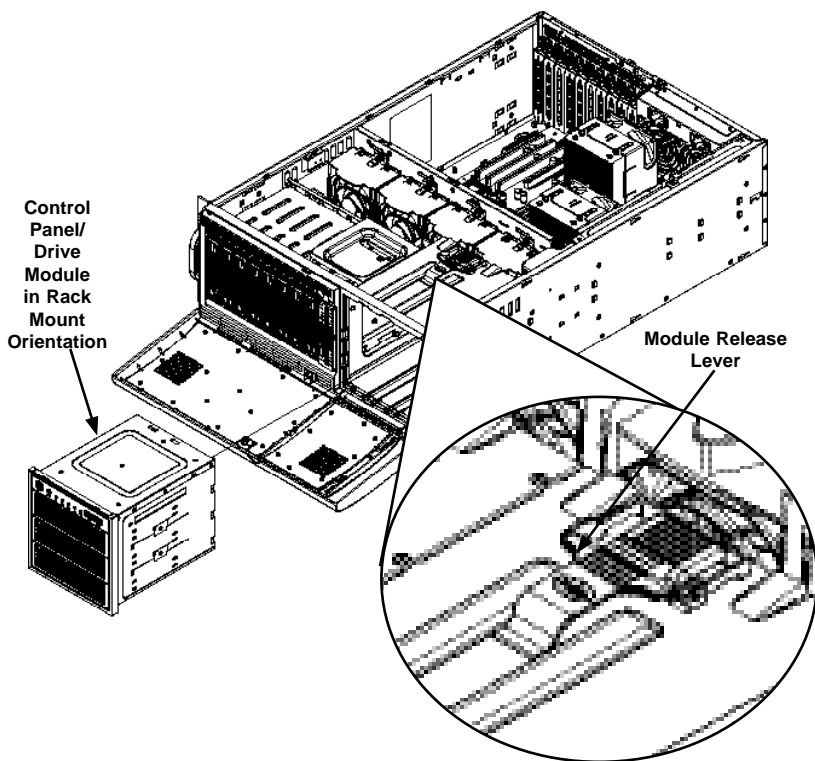

Figure 6-5. Rotating the Control Panel/Drive Module
3. Push the module release lever to unlock the module. (Figure 6-5)